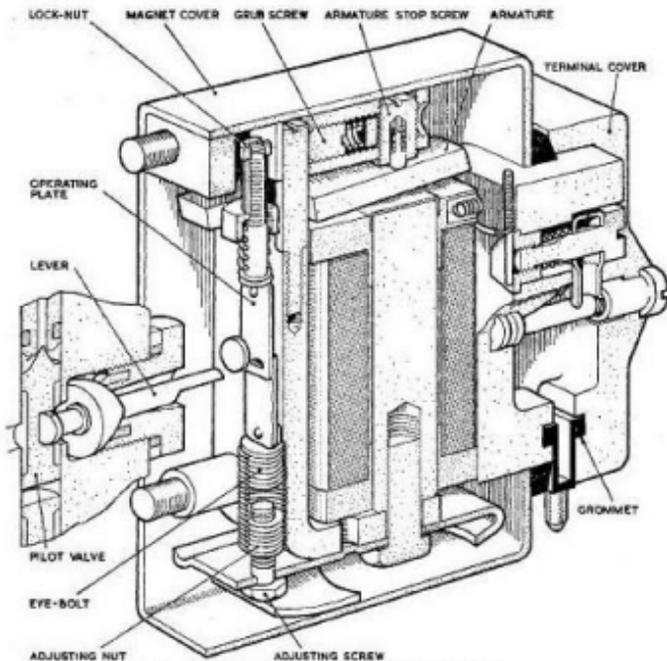

Fig. 1. Magnet assembly, Type C2526Y, Mk. B
2. This magnet assembly (fig. 1) is fitted in the electro-hydraulic control valves, Types A3907Y, Mk. A, and A6605Y, Mk. A. These differ only in the locking of the air gap setting, which in the A3907Y, Mk. A, is made by a lock-nut, and in the A6605Y, Mk. A, by a stiff-nut. Each control valve incorporates two magnet assemblies.